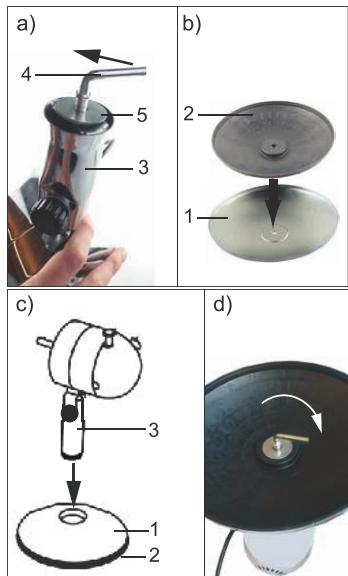

Fig.11: Mounting Base
- Loosen the L-fixing screw (4) from the stand.
- Unscrew them counterclockwise. Fig. 11 a).
- Remove the washer (5) from the stand (3).
- Place the insert in the base as shown in Fig. 11 b).
- Place the stand on the base. Fig. 11 c). *The stand must slide into the specified recess.*
- Tighten the L-screw clockwise. Fig. 11 d).